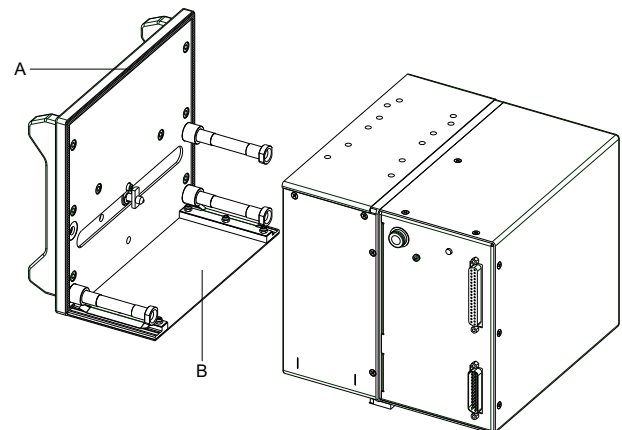

Figure 24
3. By an inserted sealing profile (A, Figure 24) and a cover (B, Figure 25) the print mechanics is protected in such a way for ingress of water and dust.